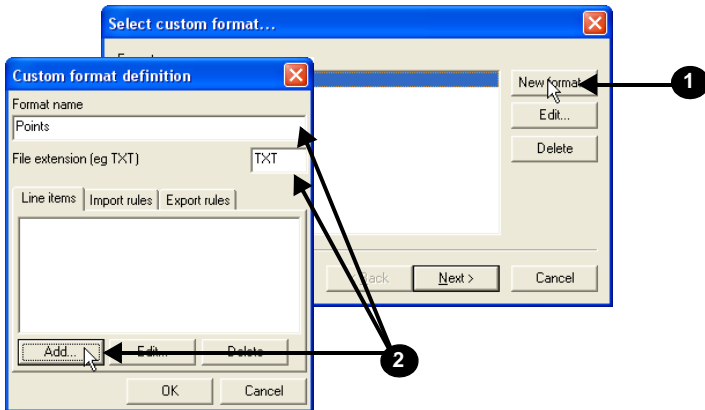

Figure 2-1. Create New Format
1. Navigate to the *Select custom format* dialog box and click **New format** (Figure 2-1). For example, click **Project ▶ Export control points ▶ To text file**.
2. On the *Custom format definition* dialog box, type a name for the new format and an extension of the file, then click **Add** on the *Line items* tab (Figure 2-1).